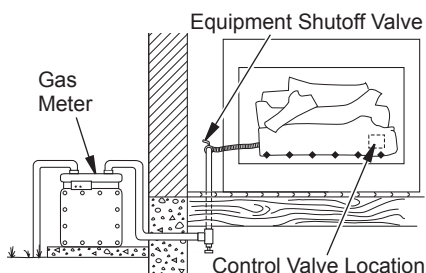

Figure 16 - Checking Gas Joints (Natural Gas Only)
(see Figure 16 or 17). Apply a commercial leak detection solution to all joints. Bubbles forming show a leak.
4. Check all joints from gas meter (natural gas) or propane/LP supply to equipment shutoff valve (see Figure 16 or 17). Apply a commercial leak detection solution to all joints. Bubbles forming show a leak.